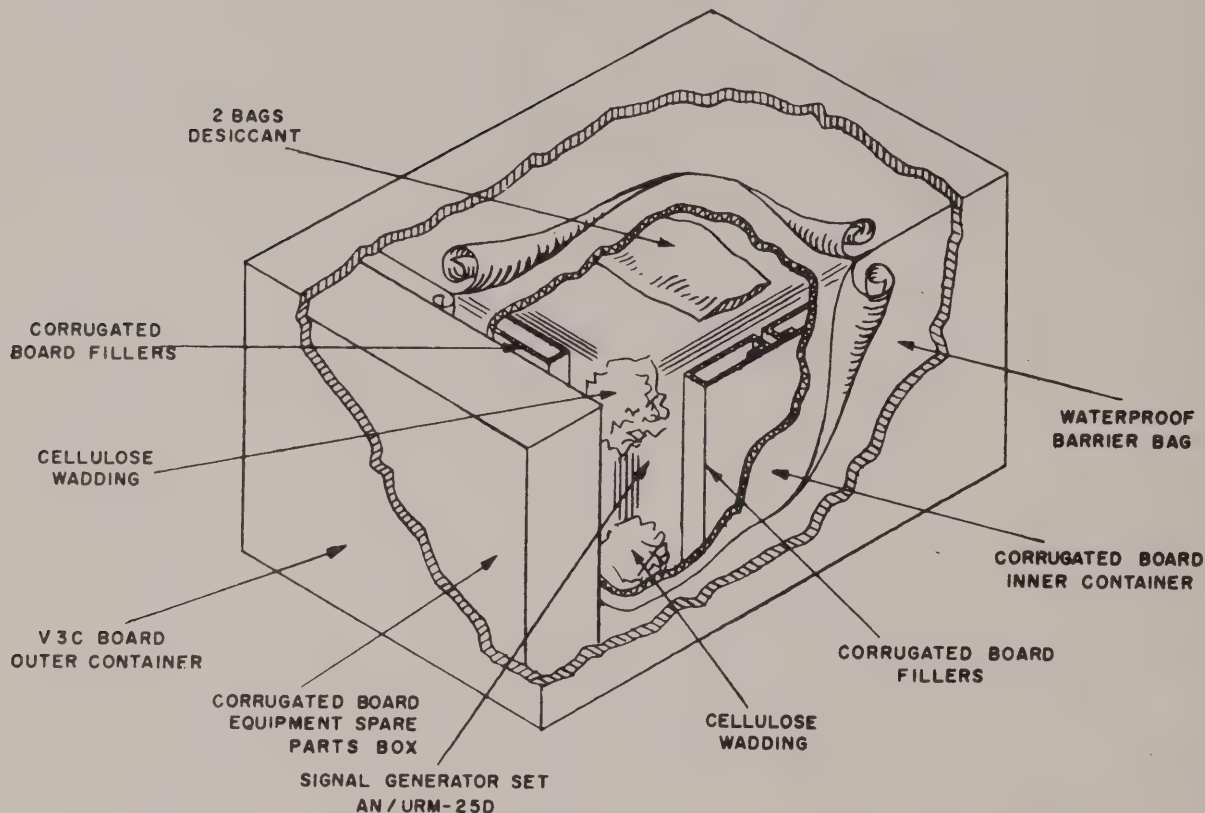

Figure 3-1. RF Signal Generator Set AN/URM-25D, Packaging Diagram
a. The AN/URM-25D is packed in a V3C board box together with a set of equipment spares. Electron tubes are shipped in place. The Signal Generator with accessories and the set of spares are individually enclosed in separate, specially cushioned cardboard cartons. Great care should be exercised in removing these items (figure 3-1).